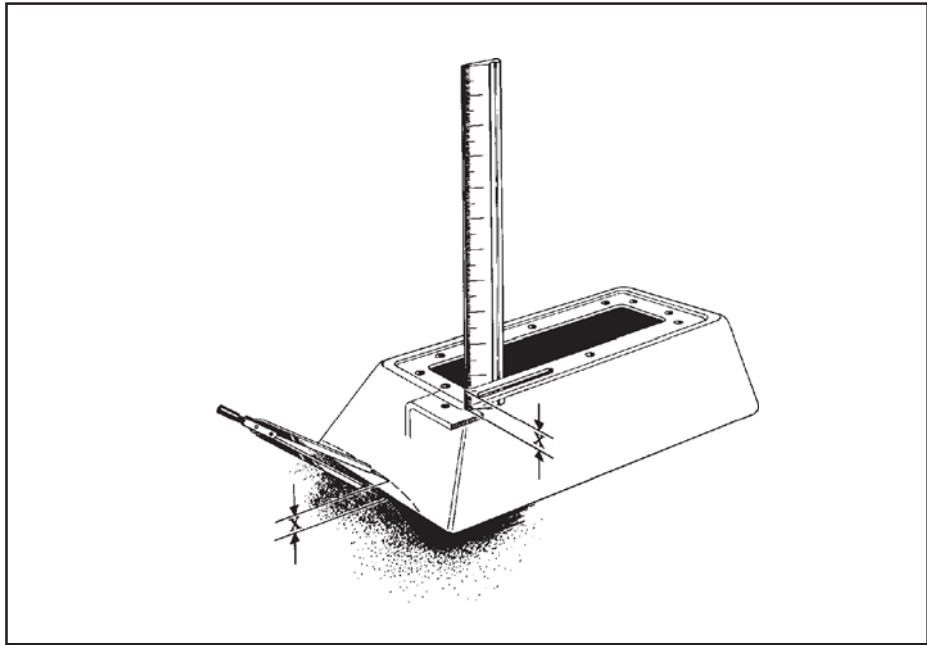

Figure 8
STEP 23. Remove the two transmission oil pan bolts directly below the shift lever. Install the cable bracket in position, (See **Figure 8**), with two spacers between the pan and the bracket. (If your transmission is equipped with a cast aluminum oil pan these spacers can be omitted.) Install the two 5/16-18 x 1.00" pan bolts supplied and tighten to 12-13 lbs.ft. Do not overtighten as this can damage the pan gasket.
STEP 28. Place the tower over the shifter mechanism until the bottom edge of the tower touches the floor. Put the shifter cover and the indicator cable through the opening in the top of the tower. Hold the tower level to the shifter with the bottom of the tower touching the highest surface on the floor it will come into contact with (**See Figure 8**). Use a ruler to measure the distance X from the underside of the tower to the tower mounting brackets on the shifter mechanism.
STEP 29. Set a pair of dividers at the distance X, measured in **Step 28**. Hold the tower level to the shifter mechanism with the bottom of the tower touching the highest surface on the floor it will come into contact with. Holding the tower in position, place one leg of the divider against the floor while the other touches the tower (**See Figure 8**). Using the dividers, scribe a line around the tower that follows the contour of the floorboard. Remove the tower and trim at the scribe line using tin snips. Once tower is properly trimmed, install it using two flat head sheet metal screws. The indicator cable and the cover plate should be routed out the top of the tower on the right side while the tower is being installed.